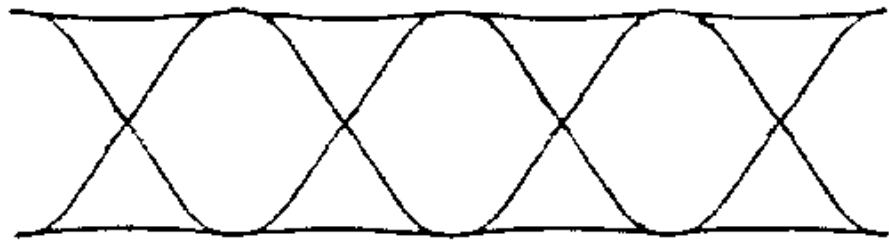

Figure 6 - Typical EYE Pattern
4. Verify the 4800 baud EYE pattern is generated and that the output is between ± 1.4 kHz and ± 1.7 kHz deviation. See Figure 6 for typical EYE pattern.